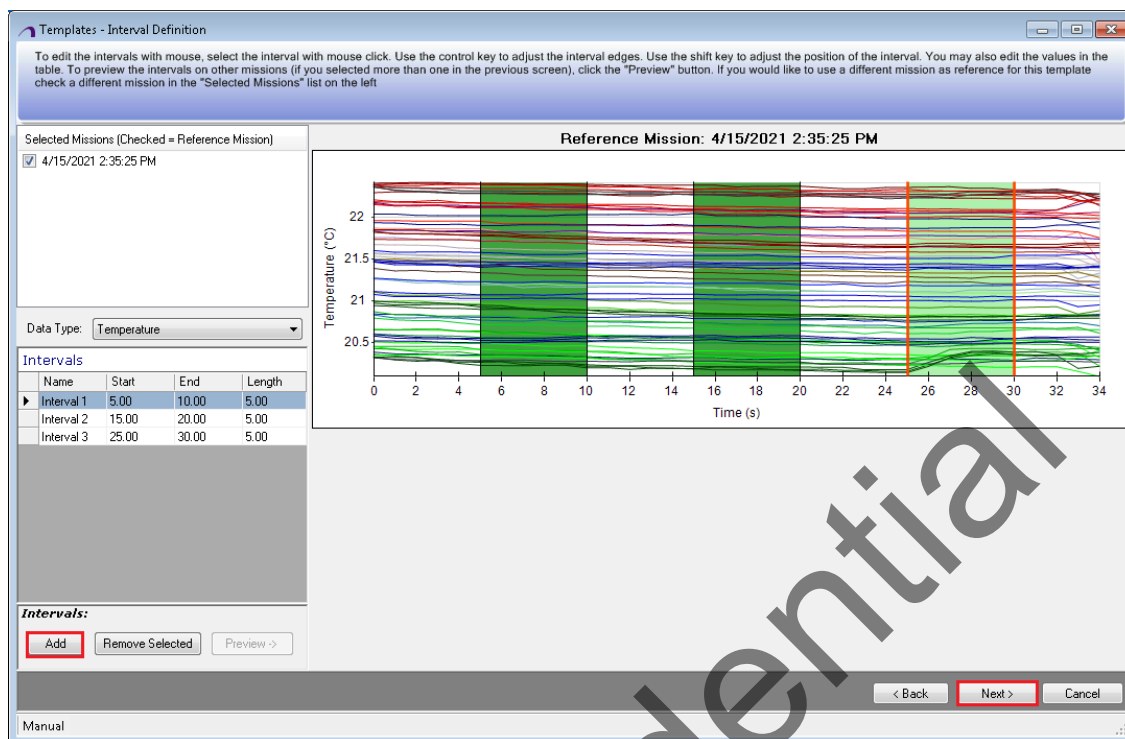

Figure 6-3 Templates - Interval Definition Window
5. Click the **Next>** button after a reference mission is selected. The **Templates – Interval Definition** window opens, as shown in Figure 6-3.